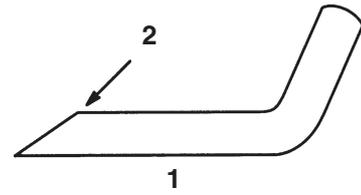

Figure 83
3. Inspect the cutting edges of all blades. Sharpen the cutting edges if they are dull or nicked. Sharpen only the top of the cutting edge and maintain the original cutting angle to make sure of sharpness (Fig. 83). The blade will remain balanced if same amount of metal is removed from both cutting edges.